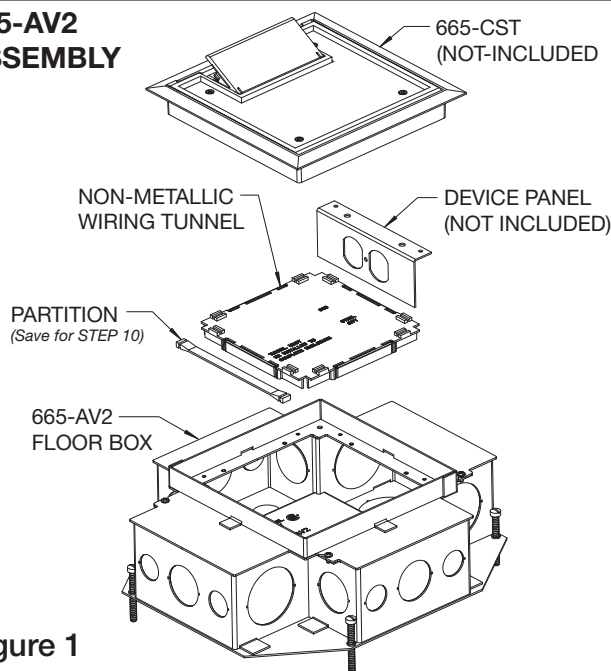

Figure 1
4. Break/trim off partition from non-metallic tunnel. Place non-metallic tunnel and partition in box. See figure 1.